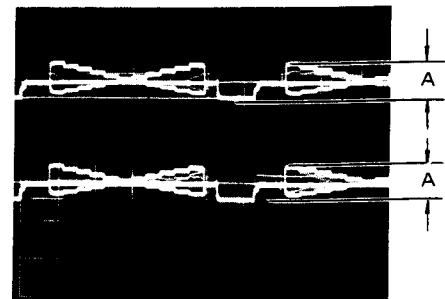

Fig. 5-6-13
- o Connect the oscilloscope to TP6 (G) and TP16 (1H).
- o Adjust VR14 (1H CCD GAIN) so that the signal level at TP6 (G) and TP16 (1H) becomes equal. (Fig. 5-6-13)